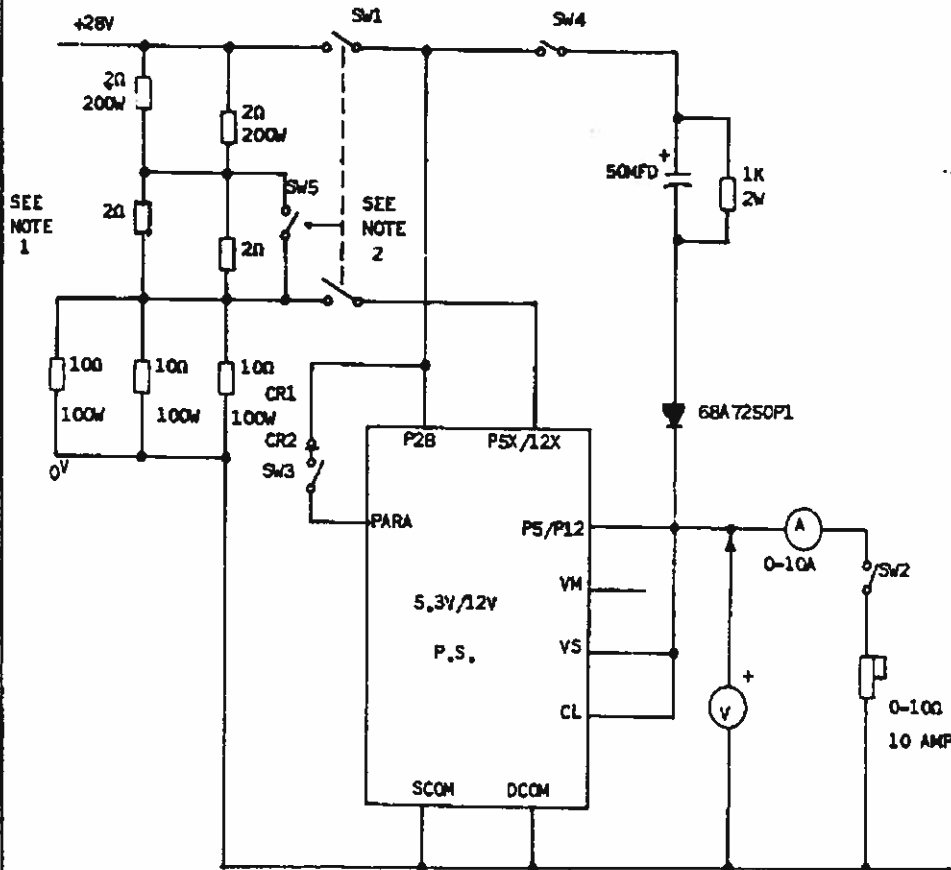

FIGURE 1
1. CONNECT PER FIG. 1. CLOSE SW1. SET VOLTMETER READING TO 5.3V  $\pm$  20MV.
1. CONNECT PER FIG. 1. CLOSE SW1. SET VOLTMETER READING TO 12 VOLTS  $\pm$  10MV
1. CONNECT PER FIG. 1. CLOSE SW1. SET VOLTMETER READING TO 12 VOLTS  $\pm$  10MV BY MEANS OF R40 (ACCESSABLE FROM CARD FRONT).